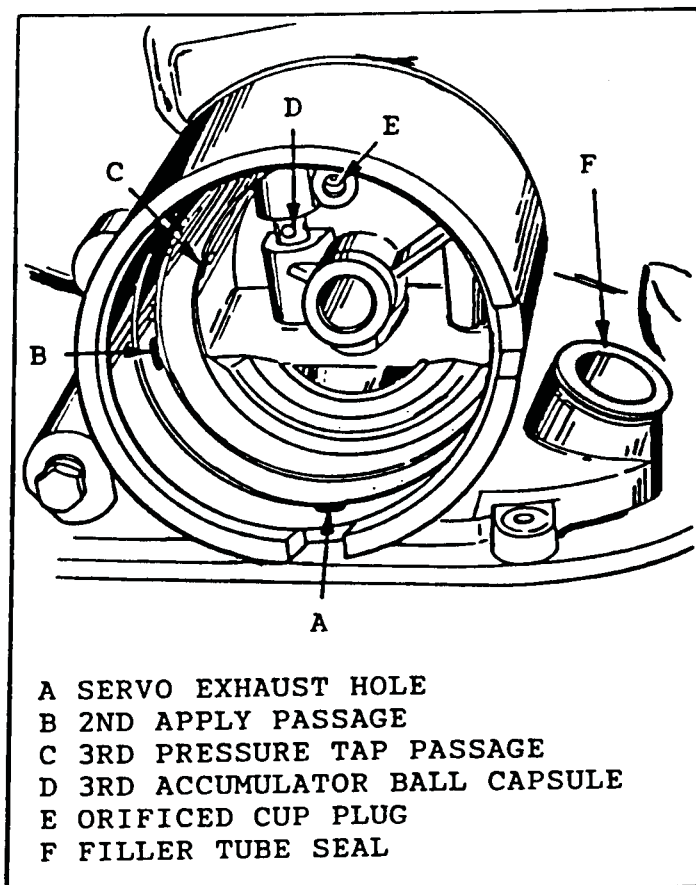

Figure 59
4. Oil feed slots in the capsule assembly must line up with oil passage in the servo bore, as shown in Figure 59 "D".